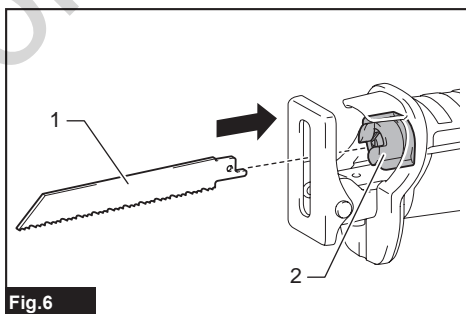

Fig.6
- **Fig.6:** 1. Reciprocating saw blade 2. Blade clamp sleeve